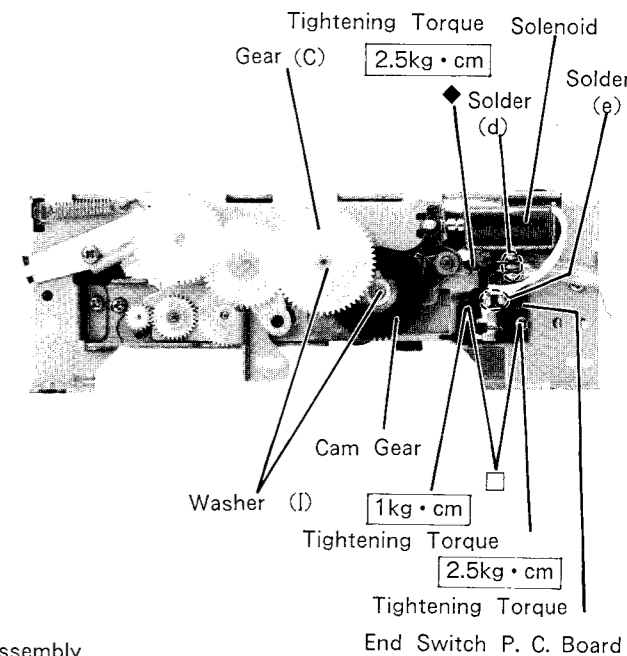

Figure 27
- (1) Unsolder the solder (d) and (e) as shown in Figure 27.
- (2) Remove two screws marked "□" as shown in Figure 27.
- (1) After removing the both bracket for the damper (L) and (F), remove the washer (I), cam gear and gear (C) as shown in Figure 27.
- (1) Unsolder the solder (e) as shown in Figure 27.
- (2) Remove one screw marked "◆" as shown in Figure 27.